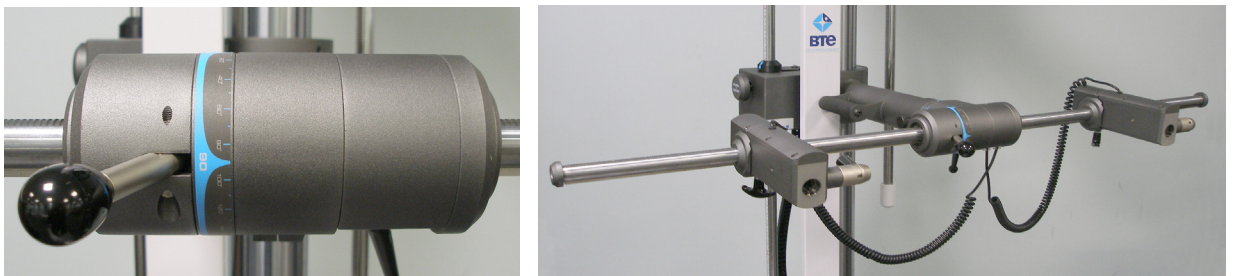

Figure 10-12. UTM Rotated 90° in the Sagittal Plane
- Step 4. Once you have reached the desired position, move the gear shift lever from right to left. You should hear a snapping noise once the UTM has been locked into position (Figure 10-12).